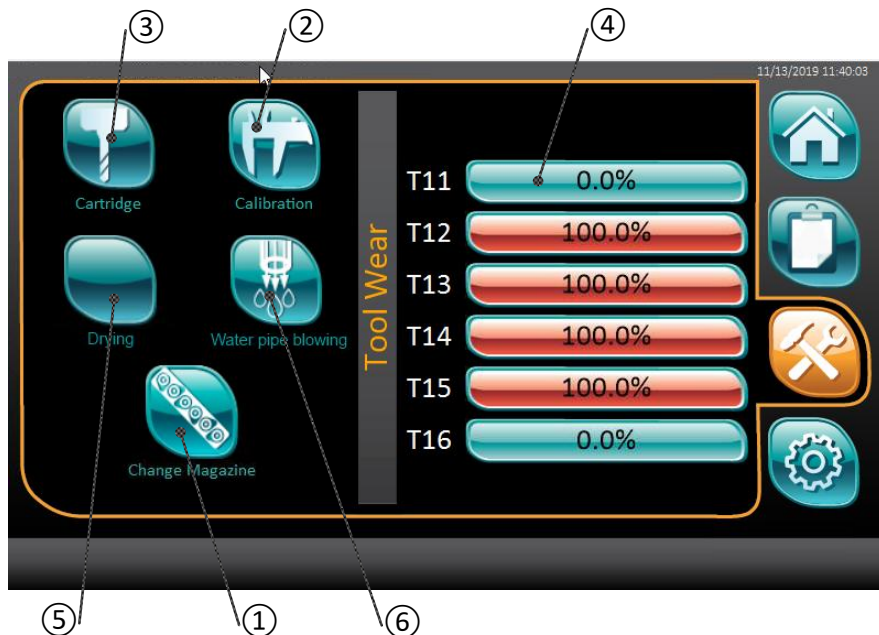

Figure 22 Tools page
Touch Calibration button  [Figure 22 / 2] to open calibration page.
1. Touch CARTRIDGE button  [Figure 22 / 3]. (The collet chuck opens.)
3. To close the collet chuck of the spindle touch CARTRIDGE button [Figure 22 / 3].
The machine gives information about the current wear status of the tool [Figure 22 / 4] based on the usage time since the calibration of the tool and the total life span of the tool.
2. Touch Drying button  [Figure 22 / 5] to start the process.